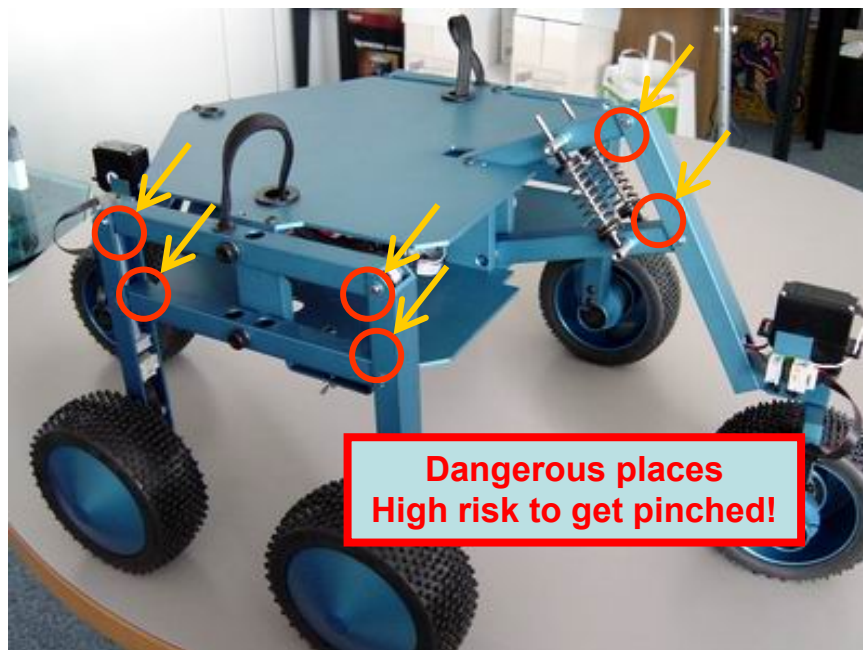

Fig. 5: Injuring risks at some places – beware!
- On fig. 5 the locations where one can get easily pinched are shown. Avoid touching these parts, especially when grasping or holding the rover